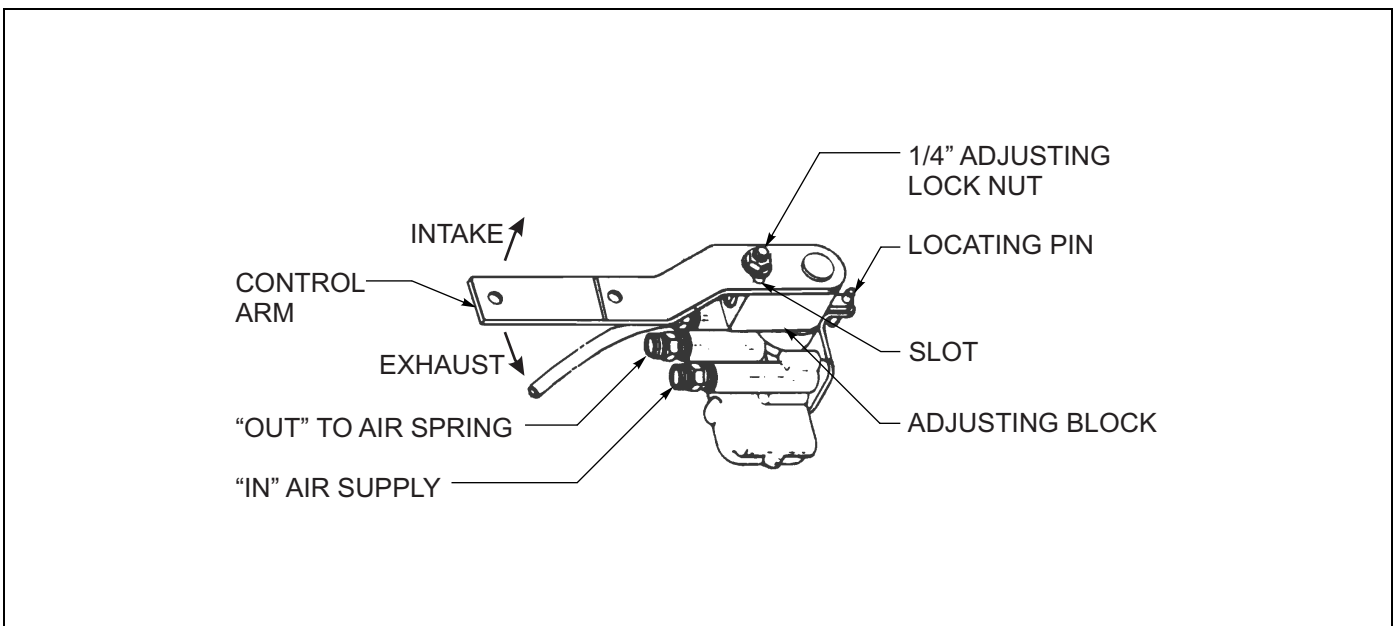

Figure 4-6: Air Ride Height Adjustment
2. Disconnect linkage at the control arm and raise control arm to the "up" position, raising the trailer until a block can be placed between axle tube and undercarriage frame (**See Figure 4-6.**)
6. Loosen the 1/4" adjusting lock nut located on the adjusting block, allowing the control arm to move approximately 1 inch. Move the adjusting block until holes align, then insert locating pin. (**See Figure 4-6.**)